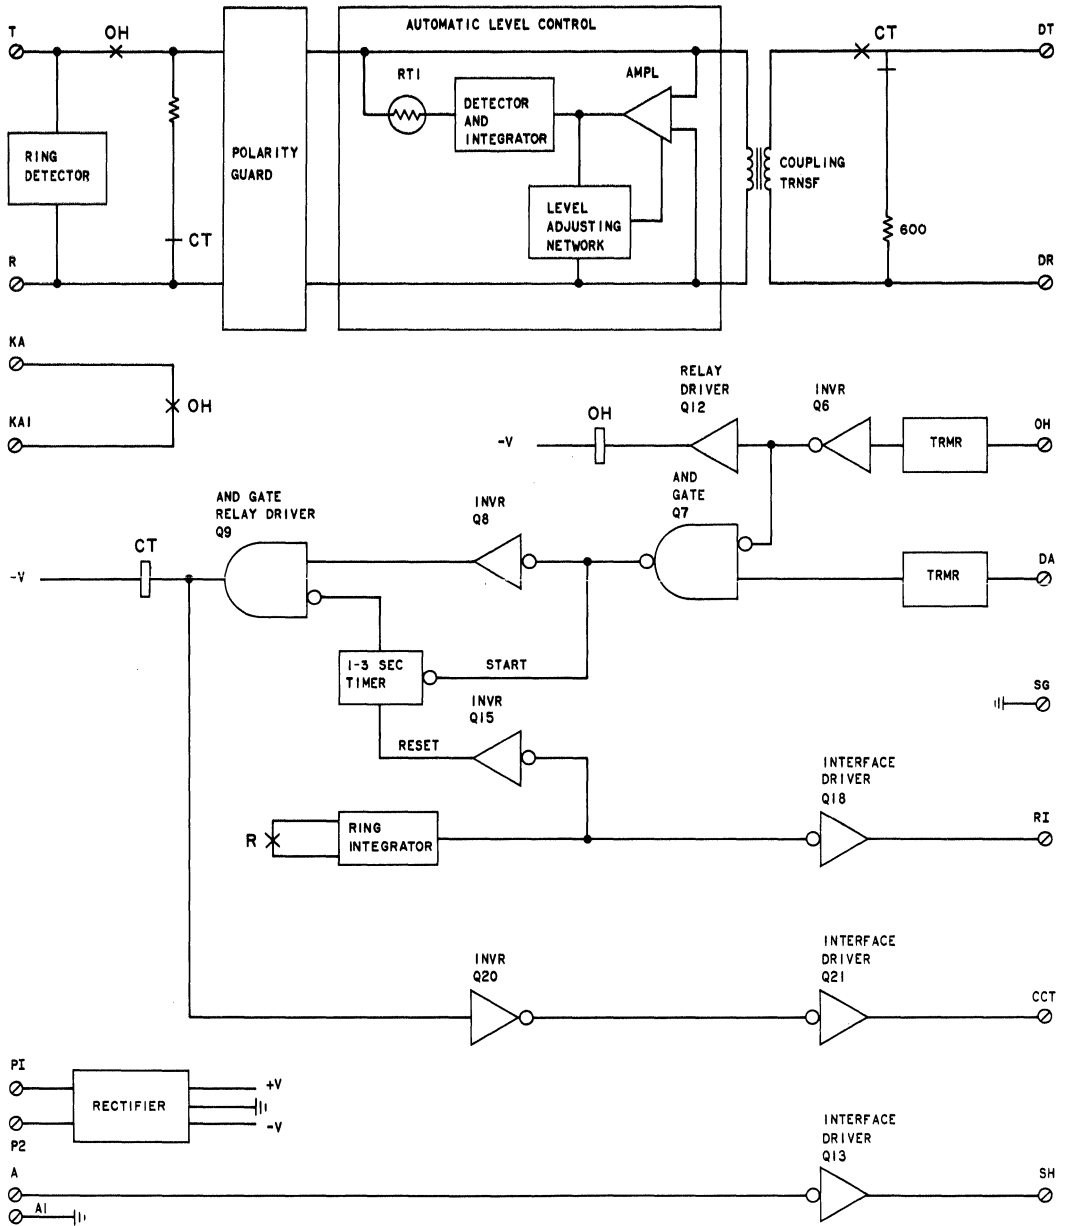

Fig. 3—Functional Schematic of 1001A Data Coupler—Data Mode
2.12 Ring Detection: The ring detector (Fig. 3) is activated when 20-Hz ringing signal is present on the line, indicating an incoming call. The R relay, part of the ring detector, operates and releases in response to each half cycle of ringing current. Contact closures of the R relay contact are used to drive the ring integrator (RI) circuit. After approximately 2 cycles of 20-Hz ringing signal are detected by the RI circuit, it operates to reset the 2-second call timer through inverter Q15 and to operate the Q18 interface driver.